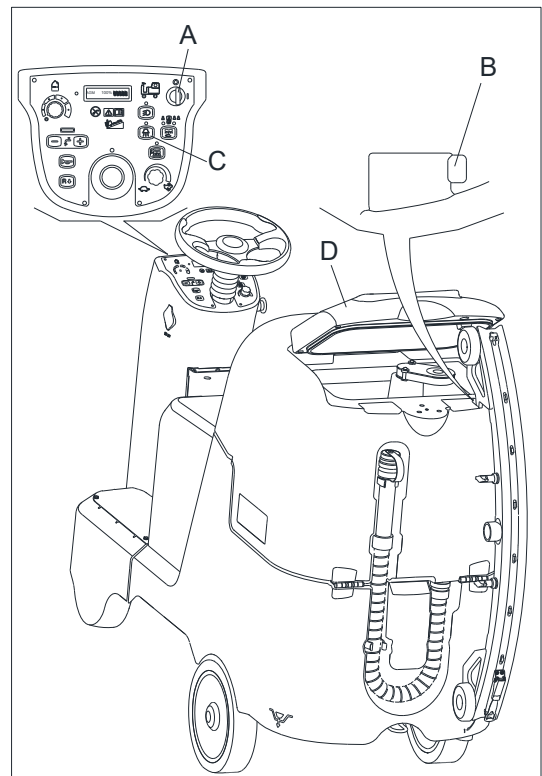

Figure 22
2. Turn the ignition key (A, Figure 22) to "I".
8. After clean the squeegee, carefully lift the recovery tank lid (D Figure 22), take the squeegee hung in recovery tank's grooves (B Figure 22), so that the recovery tank has been ventilated and the machine through the narrow passage easy.